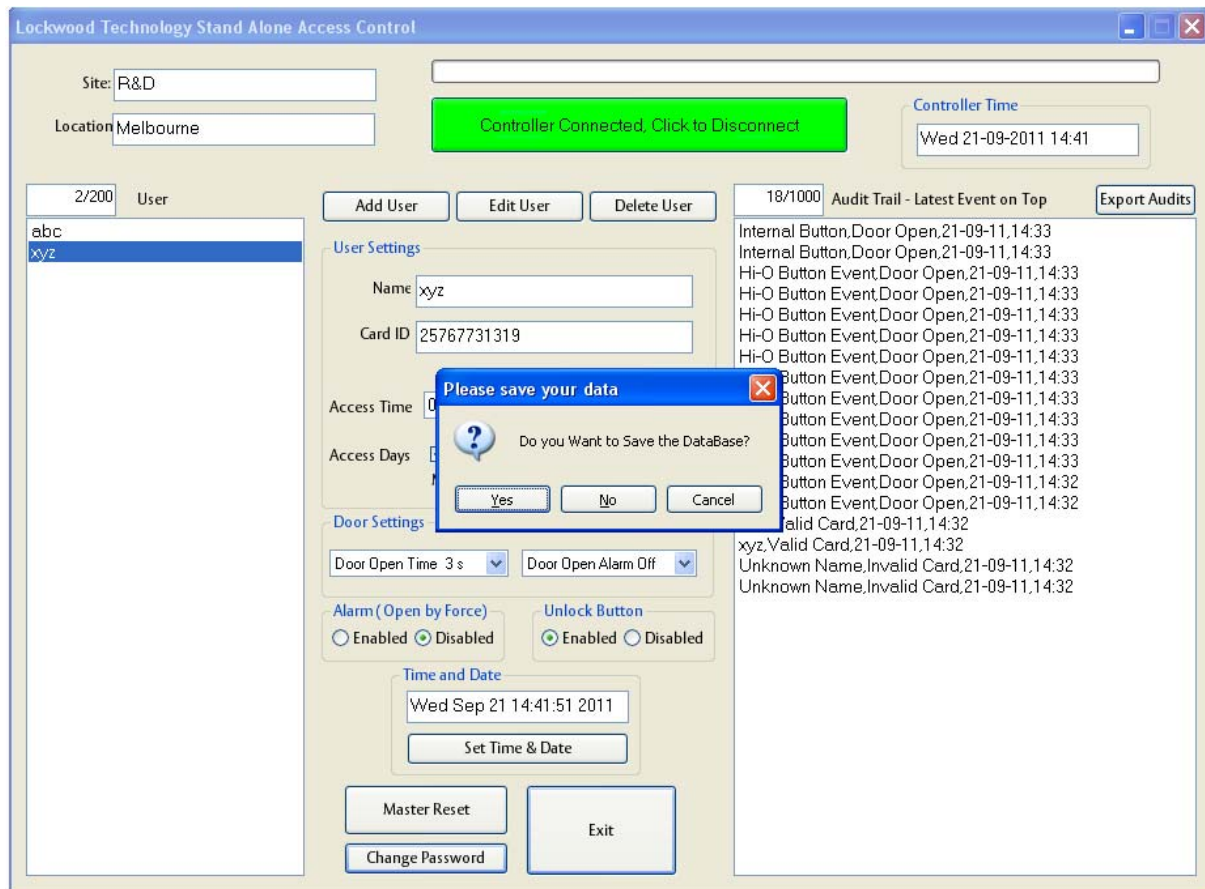

Figure 25: Exit New Installation
- Click "Exit" button when finished adding user information, as shown in figure 25.